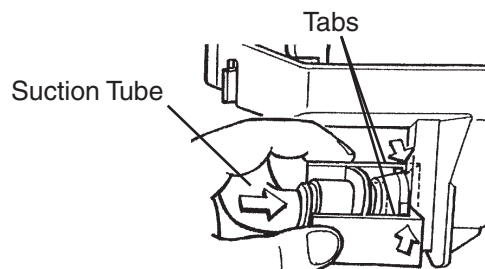

Fig. 36
- 4) Reconnect the suction tube as illustrated. See Fig. 36. Make sure the tabs lock into place; a loose fitting may cause a water leak.